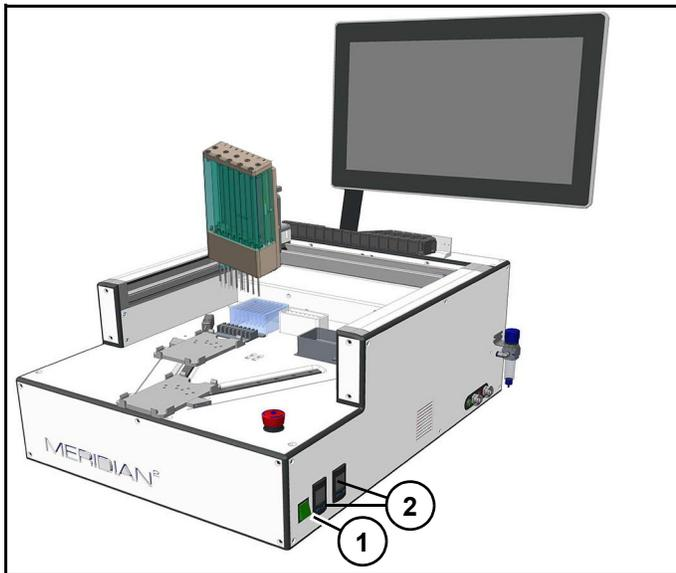

Figure 1
1. Turn on power (1) (Figure 1).
7. Verify pressure on gauges (2) (Figure 1) are within specification range.